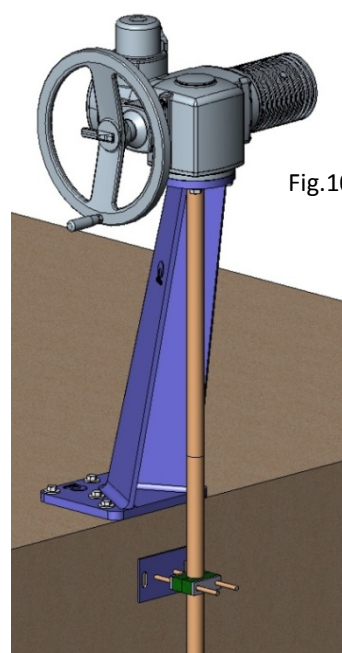

Fig.10
- **Possibility of leaning floor stand (Fig.10).**